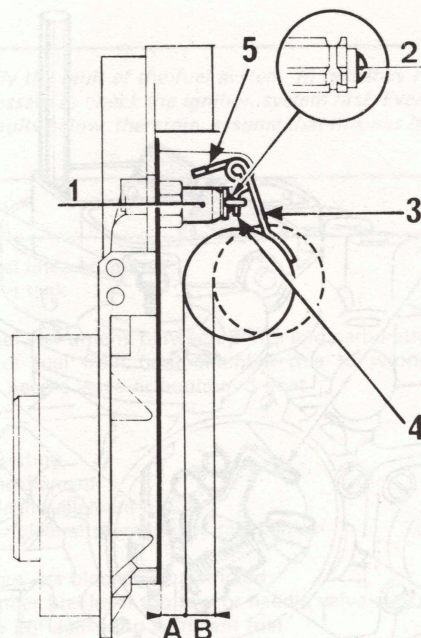

Fig. 3.16 Float setting diagram (Sec 14)
10 Before fitting the carburettor cover with a new gasket, check the float setting. Hold the cover vertically with the float hanging down. The nearest point of the float to the surface of the cover gasket (A – Fig. 3.16) should be 7.0 mm (0.28 in). If necessary bend the float arm. Now gently lift the float with the finger. Dimension A + B (float stroke) should be 15.0 mm (0.59 in). If necessary, bend the tab (5).